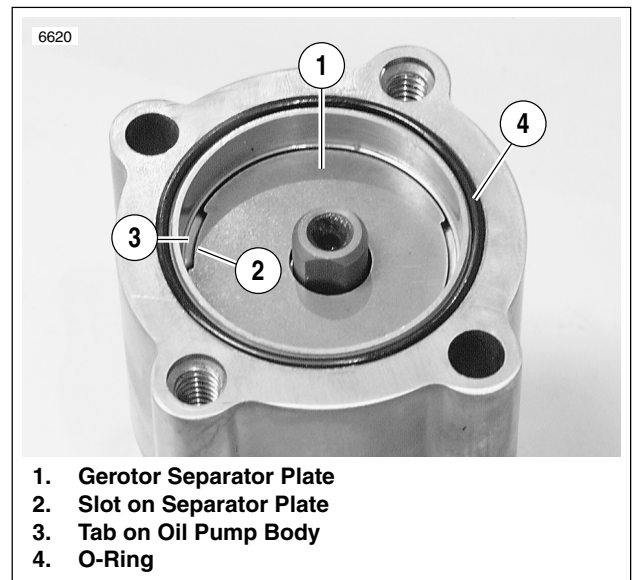

Figure 3-54. Separator Plate Slots
2. Insert inner gerotor of the gerotor scavenge set (9) over gear shaft.
3. Place outer gerotor over inner to complete scavenge set (9).
4. See Figure 3-54. Position gerotor separator plate into case and line up slots on perimeter with tabs inside oil pump body.
5. Place gerotor feed set (7) over gear shaft (11).
6. Install a **new** O-ring (14) into groove in cover (6). Place cover onto pump body. Install T27 TORX cover screws (2) with washers (3). Tighten to 125-150 **in-lbs** (14-17 Nm).
7. Place **new** mounting gasket (10) in position.